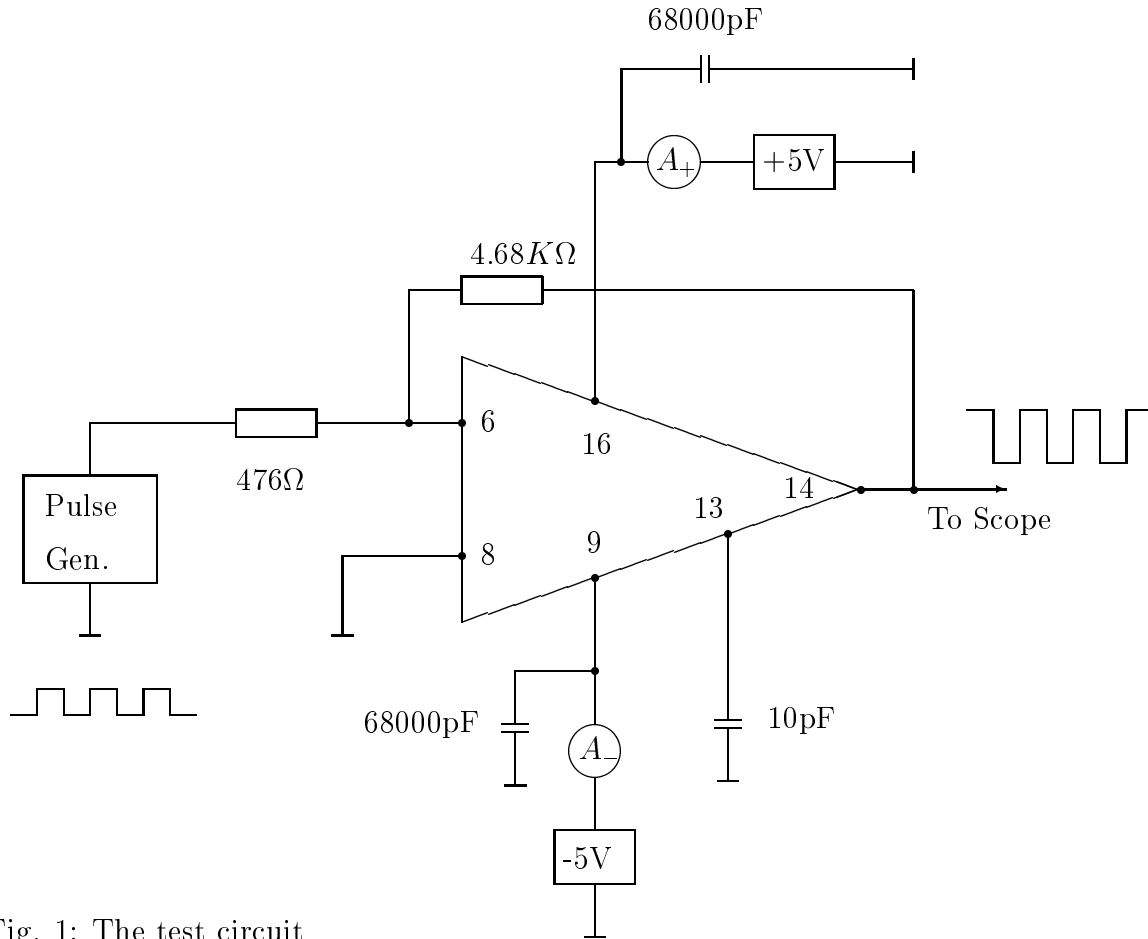

Fig. 1: The test circuit
The test circuit is shown in Fig. 1. $+5\text{V}$ and -5V DC were applied on pin 16 and pin 9 respectively. Two 68000pF are used as by-pass capacitors. Each DC voltage source was connected to an ammeter to determine the DC currents about $11\text{mA} \sim 12\text{mA}$.
The 476Ω resistor connected to pin 6 and the $4.68\text{K}\Omega$ resistor between pin 6 and pin 14 determined the amplification of the op amp. For the chosen resistors of Fig. 1, the amplification should be given by
4. the DC currents measured in A_+ and A_- of Fig. 1 should not be higher than its maximum DC currents, which are about 11mA \sim 12mA;
We measured the properties 1, 2, 3 with a scope, and property 4 through two ammeter (i.e. A_+ and A_- of Fig. 1). For property 5, We mainly rely on visual inspection.